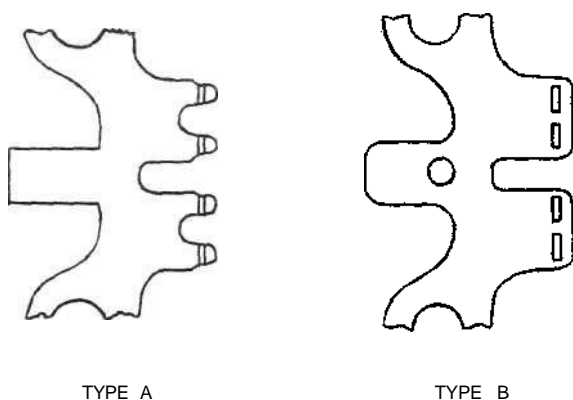

Fig. 5—Crosspoint Contact Multiples Used on Crossbar Switches—Types A and B
(a) ***Multiple Strip Contacts on Crossbar Switches:*** While the original contacts on this type of multiple were vertical, as shown in Fig. 5(A), the replacement contacts must
be placed in a horizontal position. This requires replacement of the mating contact on the associated bifurcated spring which must be replaced in a vertical position. Replacement of contacts on the type of multiple shown in Fig. 5(B) are placed in the same positions as the original contacts. When replacing bar-type contacts, take care contacts of a mating pair are approximately at right angles to each other.